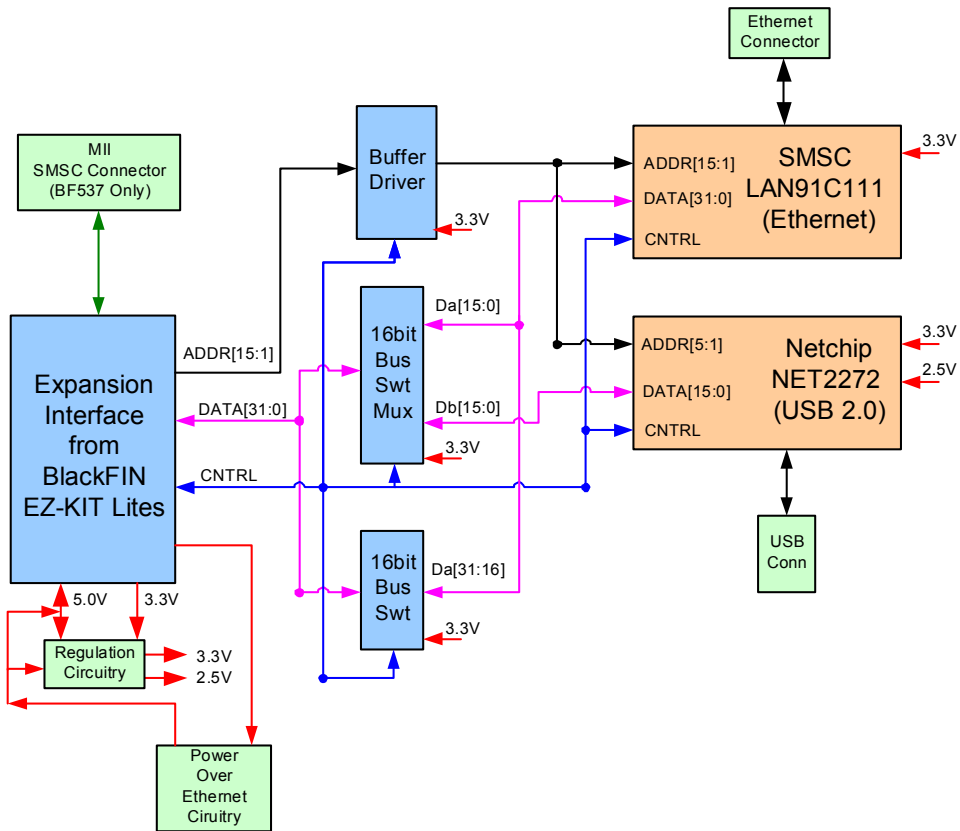

Figure 2-1. Block Diagram
4. Set the switches and jumpers on the USB-LAN EZ-Extender board. Use the block diagram in Figure 2-1 on page 2-2 in conjunction with "Jumper Setting" on page 2-3 and "Switch Settings" on page 2-6.
A block diagram of the Blackfin USB-LAN EZ-Extender is shown in Figure 2-1.